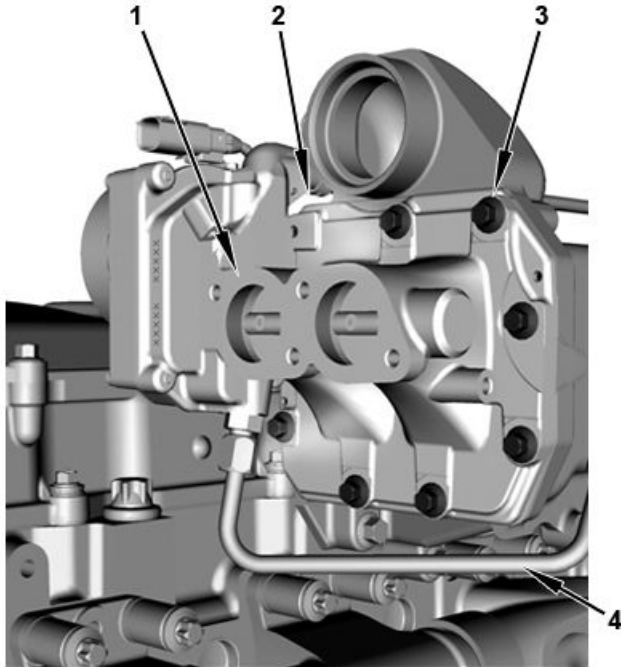

Figure 22. EGR Valve.
1. Install EGR valve (Figure 22, Item 1) with nine new M8 x 30 heat-resistant bolts (Figure 22, Item 3) and finger tighten. Install EGR valve coolant return tube assembly (Figure 22, Item 2).